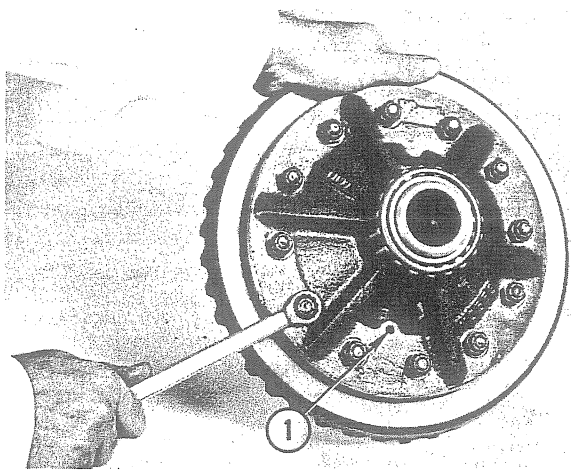

Fig. 110 - Removing Ring Gear Retaining Bolts
12. Drive out pinion shaft lock pin using a suitable punch inserted in access hole, No. 1, Fig. 110, in case.